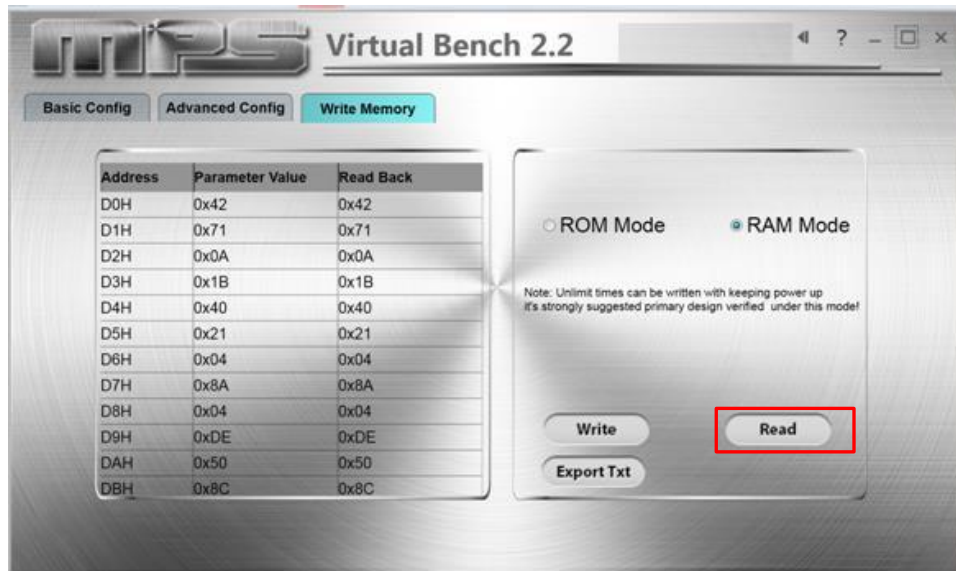
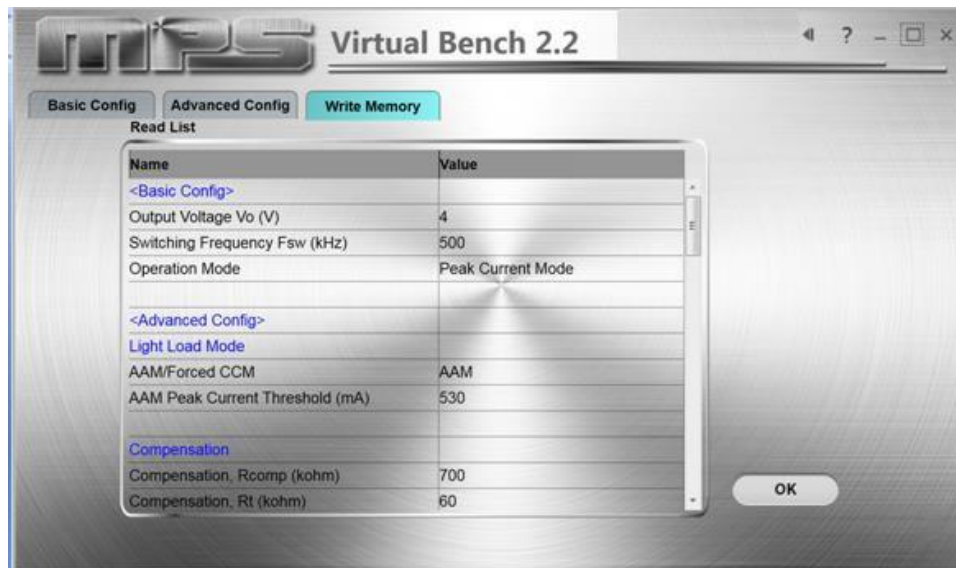

Figure 12: Read Version
Figure 13: Read Back Data
5. Click the "Read" button to read back the values (see Figure 12 and Figure 13).